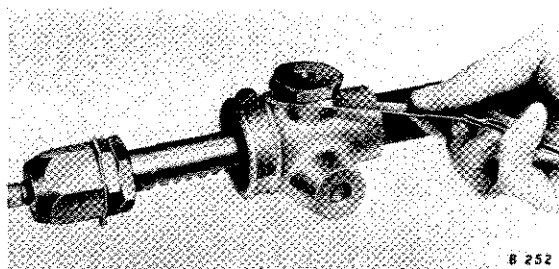

Fig. 10. Using feeler gauges to establish the thickness of shims required under the cap nut
1. Fit the pressure pad (13) and cap nut (11) to the rack tube (19). Tighten the plug to eliminate all end float and using feeler gauges, measure the clearance between the plug and rack tube faces as shown on Fig. 10. Remove the cap nut (11) and pad (13).
3. Pack the unit with grease and assemble the cap nut (11), shim pack (9) spring (12) and plunger (13) to the housing (19) and tighten the cap nut.
4. When the unit is correctly adjusted, a force of 2 lb. (0.91 kg.) is required to rotate the pinion shaft at a radius of 8" (20.3 cm.). If correction is needed, adjust the unit by adding or subtracting shims from beneath the cap nut (10).